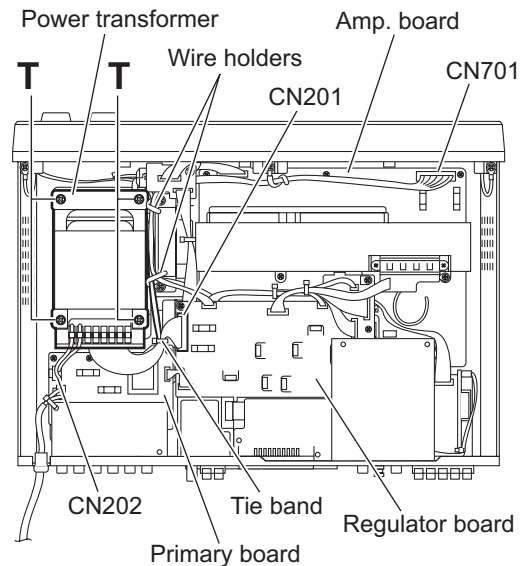

Fig.17
3.1.17 Removing the power transformer (See Fig. 17)